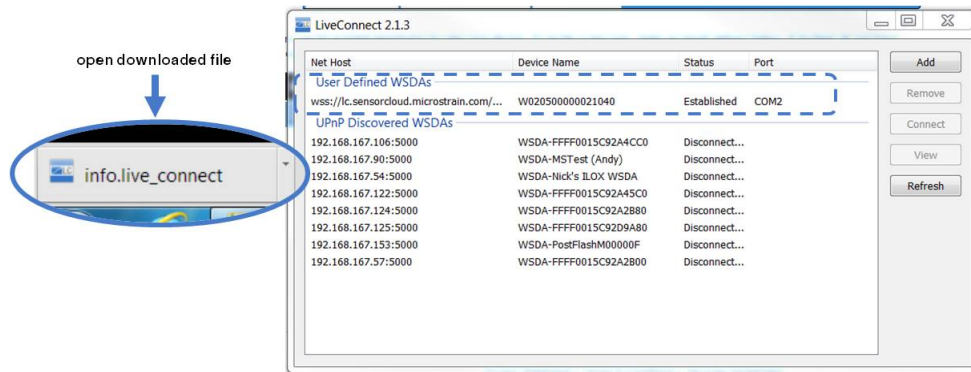

Figure 48 - Remote Live Connect Connection
- When the button is selected a file download (info.live\_connect) will begin. Open the file when the download is complete, and Live Connect will open automatically. The device will appear in the Live Connect window under User Defined WSDA's (*Figure 48 - Remote Live Connect Connection*).